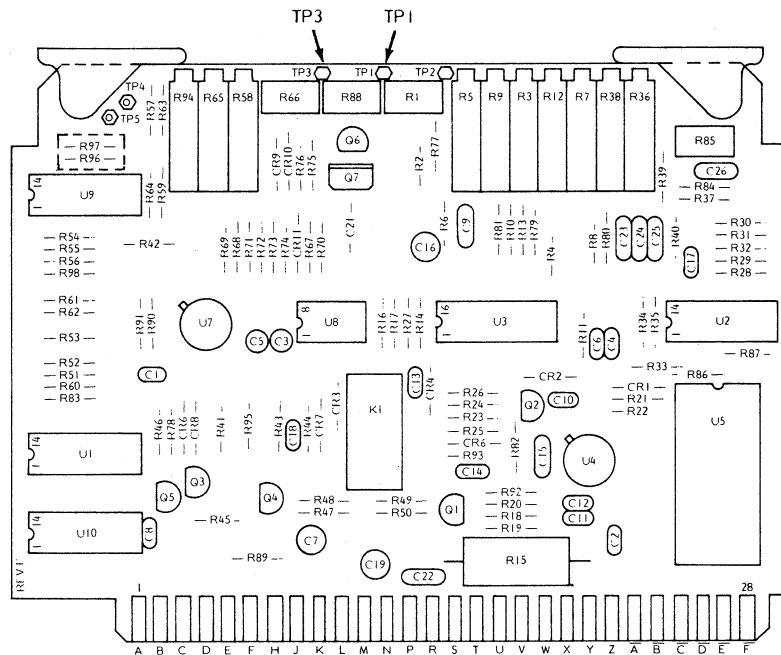

Figure 5-20A. A6 PCB RF Amplifier Bias Adjustment, Models 6609A-50, 6617A-40, 6621A-40, 6637A-40, and 6647A-40
- c. Connect the multimeter leads between TP1 (-) and TP3 (+) (Figure 5-20A).
- b. Add Figure 5-20A, below.